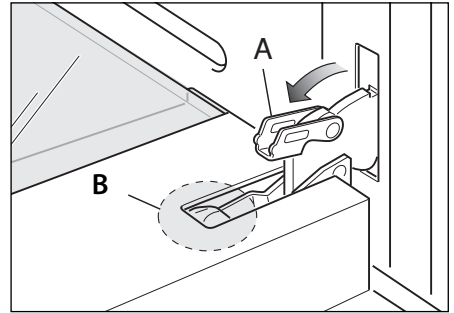
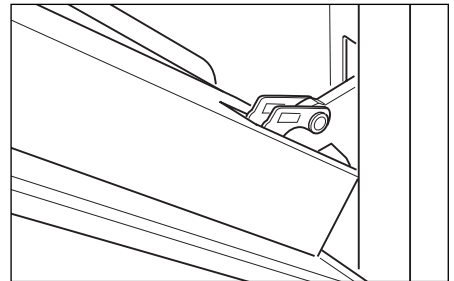

Fig.55b
Fig.55c
- Fully open the lever "A" on the left and right hinges (Fig. 55b).
- Gently close the door (Fig. 55c) until the left and right hinges are hooked to part "B" of the door (Fig. 55b).